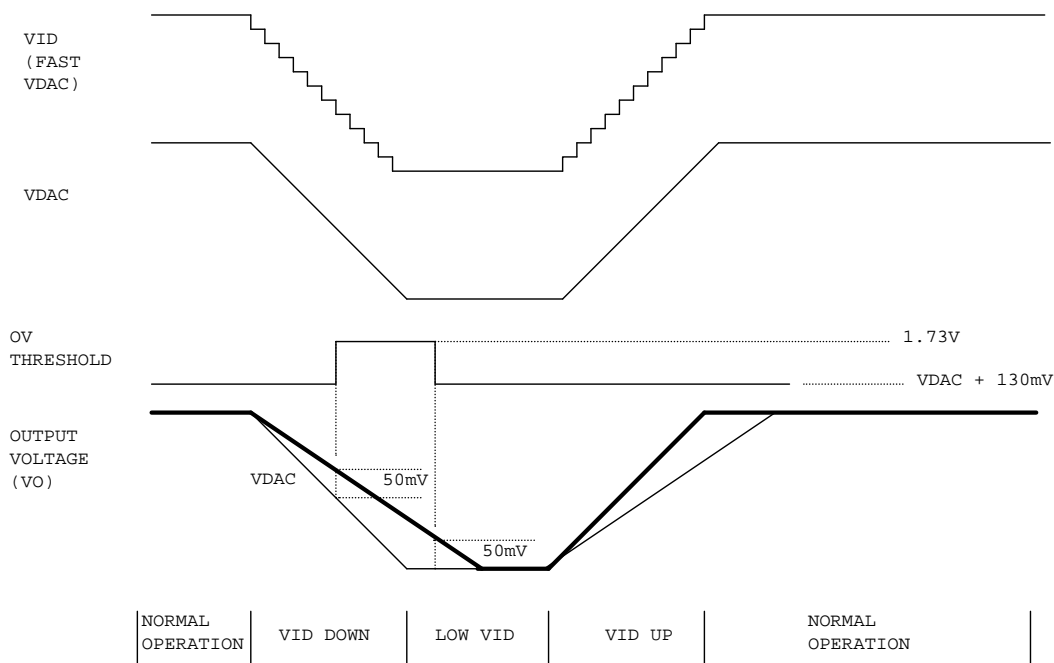

Figure 17 Over-voltage protection during dynamic VID
If either remote sense line VOSEN+ or VOSEN- or both are open, the output of remote sense amplifier (VO) drops. The IR3502A monitors VO pin voltage continuously. If VO voltage is lower than 200 mV, two separate pulse currents are applied to VOSEN+ and VOSEN- pins respectively to check if the sense lines are open. If VOSEN+ is open, a voltage higher than 90% of $V(VCCL)$ will be present at VOSEN+ pin and the output of open line detect comparator will be high. If VOSEN- is open, a voltage higher than 700mV will be present at VOSEN- pin and the output of open-line-detect comparator will be high. The open sense line fault latch is set, which pulls error amplifier output low immediately and shut down the converter. The SS/DEL voltage is discharged and the fault latch can only be reset by cycling VCCL power. During dynamic VID down, OVP may be triggered when output voltage can not follow VDAC voltage change at light load with large output capacitance. Therefore, over-voltage threshold is raised to 1.73V from $VDAC+130mV$ whenever dynamic VID is detected and the difference between output voltage and VDAC is more than 50mV, as shown in Figure 17. The over-voltage threshold is changed back to $VDAC+130mV$ if the difference is smaller than 50mV.